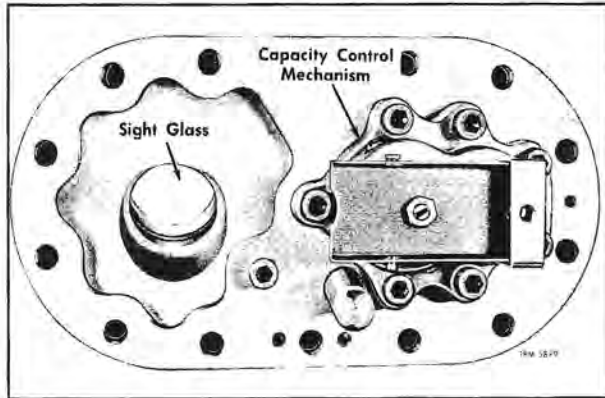

Figure 68—Handhole Cover With Capacity Control Assembly
1. Handhole cover is identified by key number 15. Remove all but the top center cover attaching screw. The top center screw should be backed out approximately 8 to 10 turns, but should be left in the compressor housing to support the weight of the cover. If necessary, tap the cover with plastic hammer to free cover from compressor. Remove cover and cover gasket (16).
NOTE: The capacity control unit (20) is a complete assembly and can be removed with the handhole cover (fig. 68). Capacity control unit is not serviced and if it becomes inoperative, the entire cover with control must be replaced as a unit. Do not tamper with small nut and slotted screw on unit sensing lever. Slotted screw adjustment is factory set.